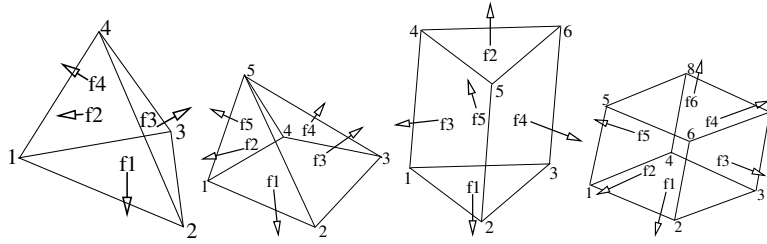

Figure 2.1: Element types.
- **elements** - list of elements: $[e1, n1, n2, \dots, ne1, me1, e2, n1, n2, \dots, ne2, me2, \dots]$, where $e1$ is the number of nodes of the first element, $n1, n2, \dots, ne1$ enumerate the element nodes, and $me1$ is the material number. Similarly for the second and all remaining elements. Supported numbers of nodes per element are 4, 5, 6, and 8 for respectively *tetrahedron*, *pyramid*, *wedge*, and *hexahedron*, cf. Figure 2.1.